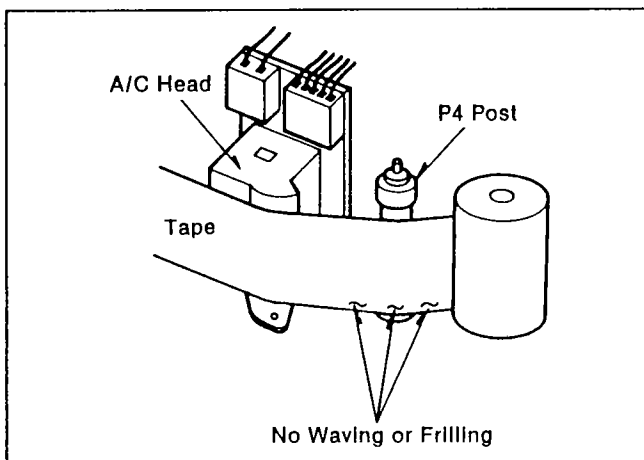

Figure M13
6. If there is waving or frilling in the lower edge (Figure M13), then repeat step 3 to 4.